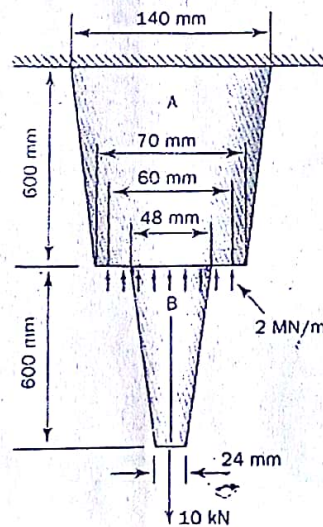

Fig. q 4a
- a) Calculate the overall change in length of the tapered rod shown in fig. q 4a. It carries a tensile load of 10 kN at the free end, and at the step change in section a compressive load of 2 MN/m evenly distributed around a circle of 30 mm diameter. $E = 208 \text{ GN/m}^2$.